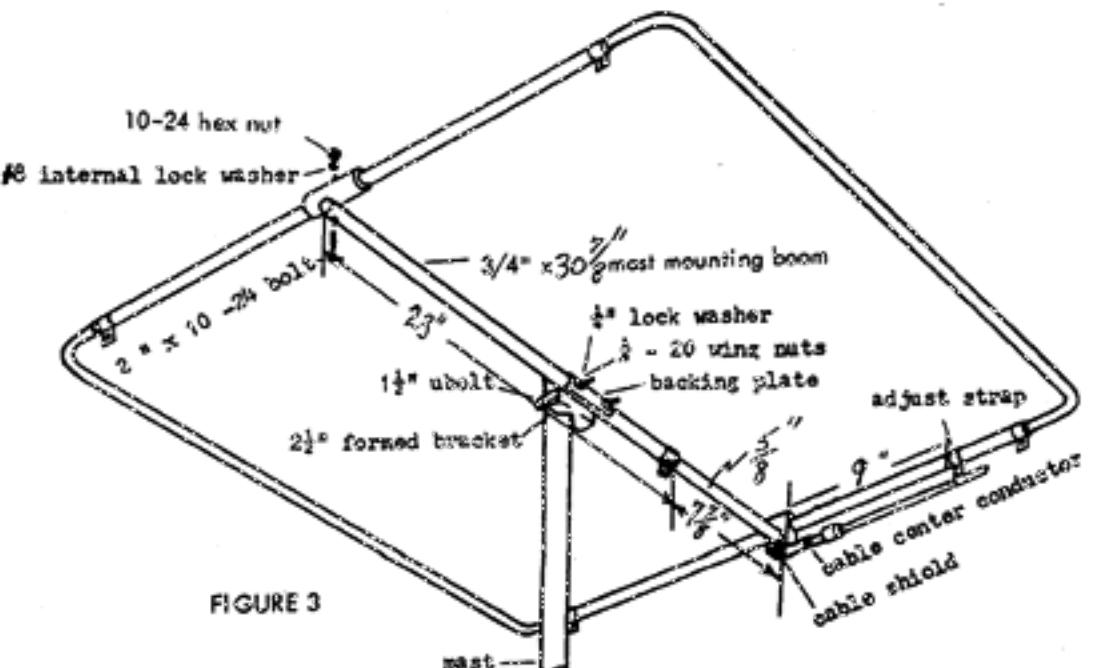

FIGURE 3
- (1) Assemble the Squalo by following step #2 of the car top mounting instructions. The approximate setting, dimension A, is figure 3. For mast mounting, the machined aluminum block should be vertical, with the Reddi Match below the 5/8" tubing, figure 3.
- (2) Insert one end of the 3/4" x 30 7/8" mast mounting support into the machined block and tighten the set screw. Attach the free end of the mast mount support to the insulator, figure 3.
- (3) Mount the Squalo on your mast. Attach the feed line to the Reddi Match. Run the coax along the mast mounting boom, and down the mast, figure 3.